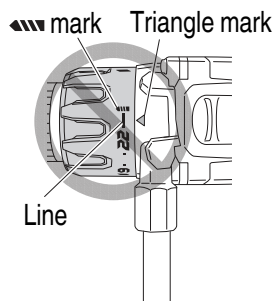

Fig. 12
- Do not use with the clutch dial set at the line between the number “22” and the drill mark “▲”. Doing so may cause damage (See Fig. 12).